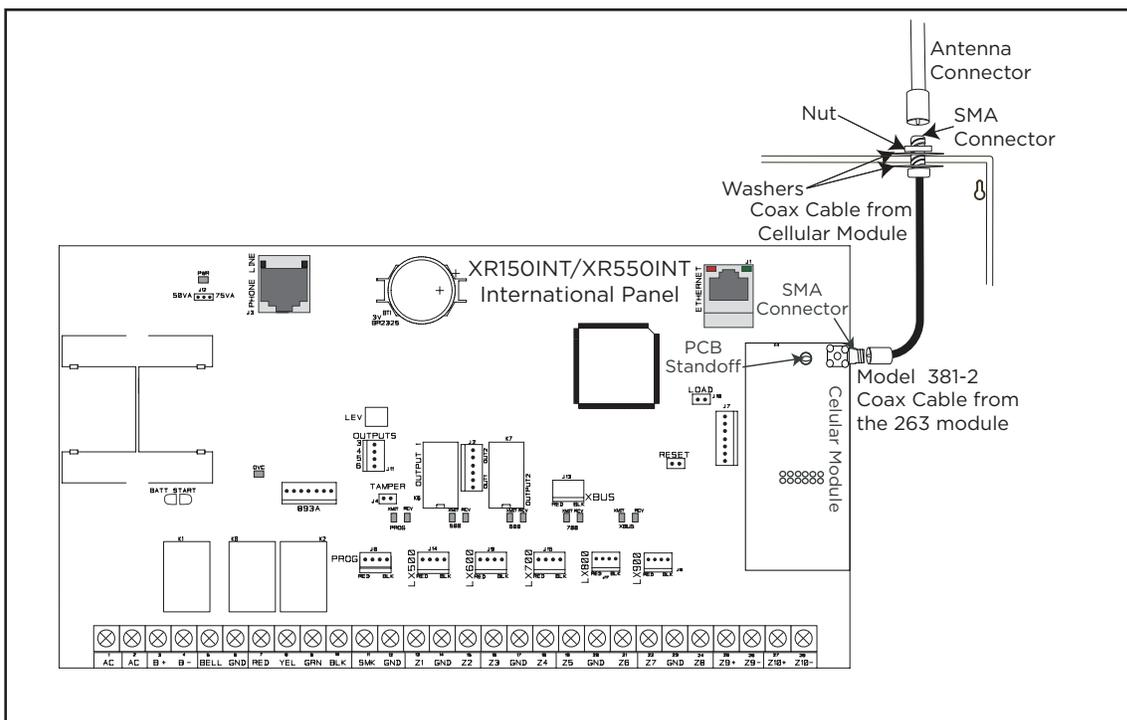

Figure 12: Cellular Module Installation
3. Press the module PCB card 12 pin connector onto the CELL MODULE header on the panel while applying even pressure to both sides of the board to fully seat the module. See Figure 12.
4. Attach the included 383 Antenna to the SMA connector. See Figure 12.